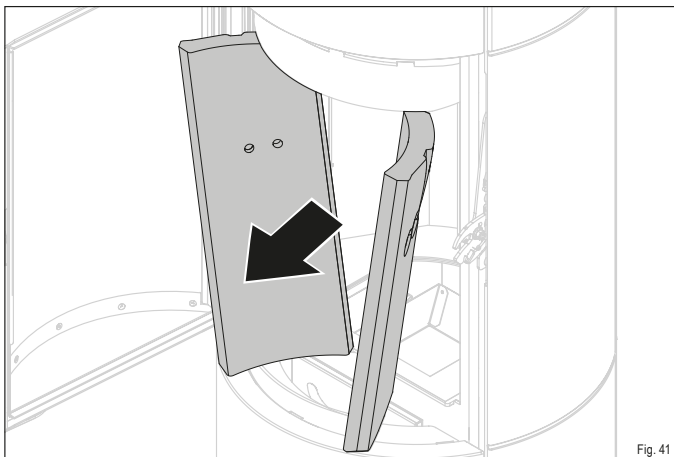

Fig. 41
- ▶ Remove the two firebricks at the side (Fig. 41).